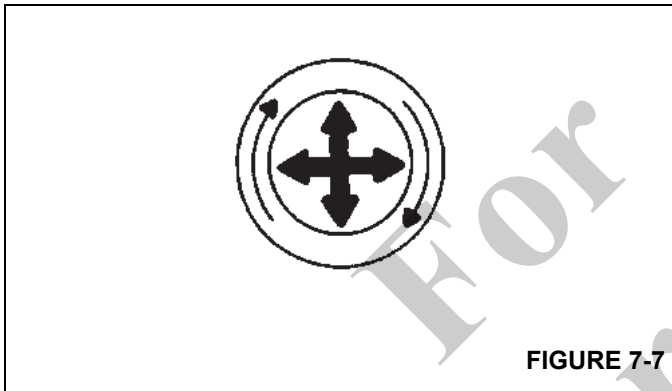

FIGURE 7-7
1. Unlatch the latches, open the air cleaner body and withdraw the element as follows (Figure 7-7):